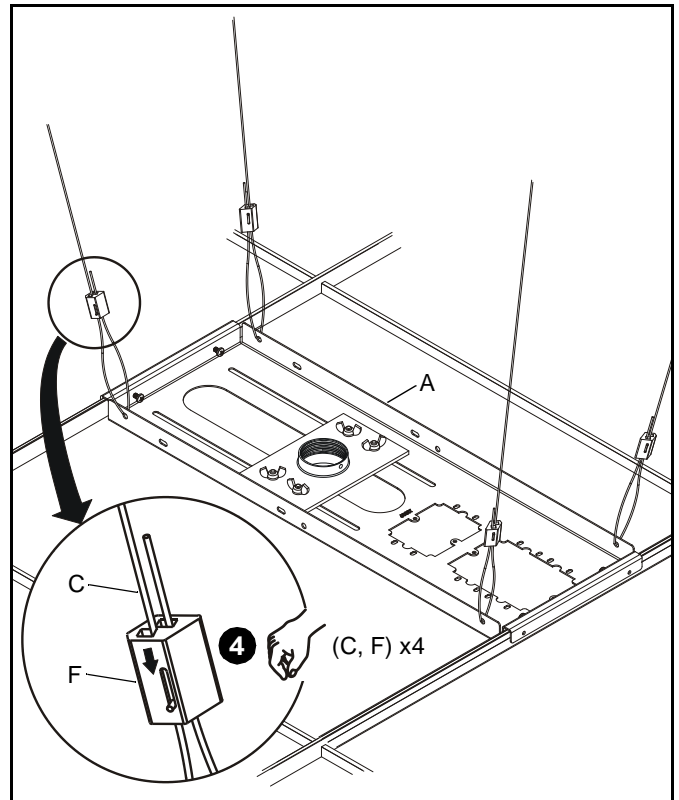

Figure 9
**CAUTION:** Failure to properly tension cables (C) may result in damage to ceiling tile framework!
4. Thread each cable (C) completely through cable lock (F), corresponding hole in corner of tray (A), and completely through opposite side of cable lock (F) (See Figure 9). Adjust cable tension until tray (A) is supported *entirely* and *evenly* by all four support cables, but not so tight as to distort ceiling tile framework.
**NOTE:** Cable lock (F) will allow cable to enter from only one direction per side, indicated by arrows on lock. Depress spring loaded pins on cable lock (F) to release cable tension.